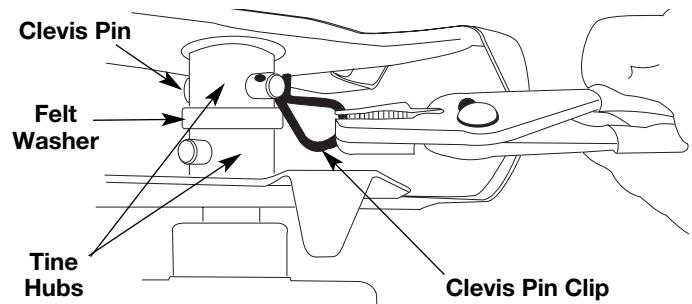

Fig. 11
1. Put the On/Off Stop Control in the **STOP (O)** position and disconnect the spark plug wire.
2. Remove the clevis pin clips and clevis pins (Fig. 11).